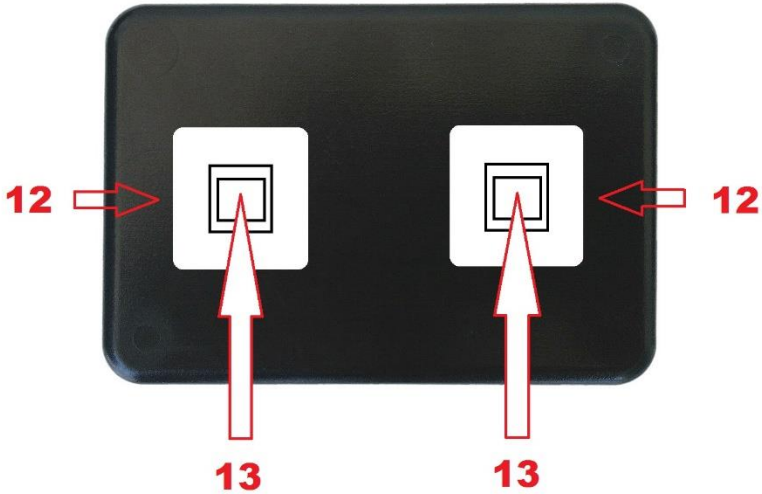

Fig. 6.2: FlowTimer+ Hub Rear view with mounting sockets
- Stick the self-adhesive mounting bases (12) to the back of the FlowTimer+ Hub as shown in Figure 6.2. Push the cable ties (13) from below through the bases and tighten them on the pipeline.
According to figure 6.2, the power supply socket (6) is internally connected to the USB charging socket (10) in idle mode (without alarm).